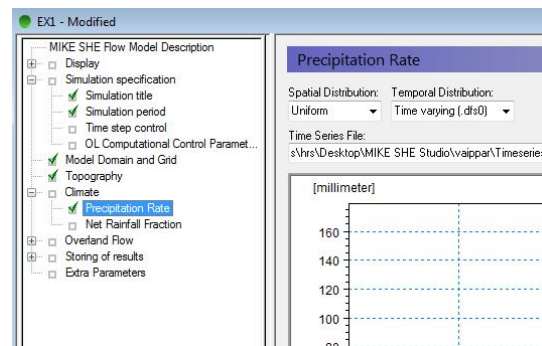

Figure 120: Climate data options
- Select the 'climate' node and then 'Precipitation rate' (See Figure 120)